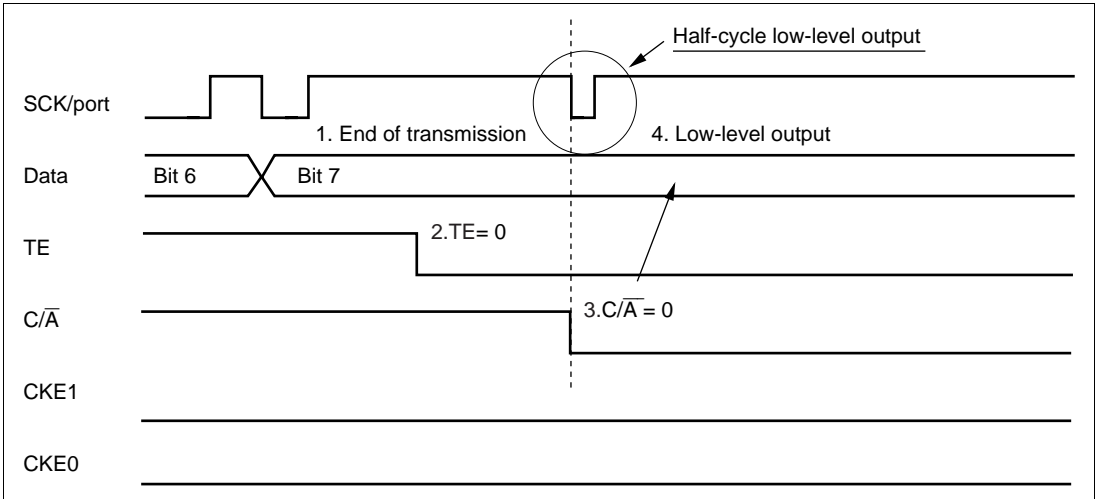

Figure 16-29 Operation when Switching from SCK Pin Function to Port Pin Function
4. Occurrence of low-level output (see figure 16-29)